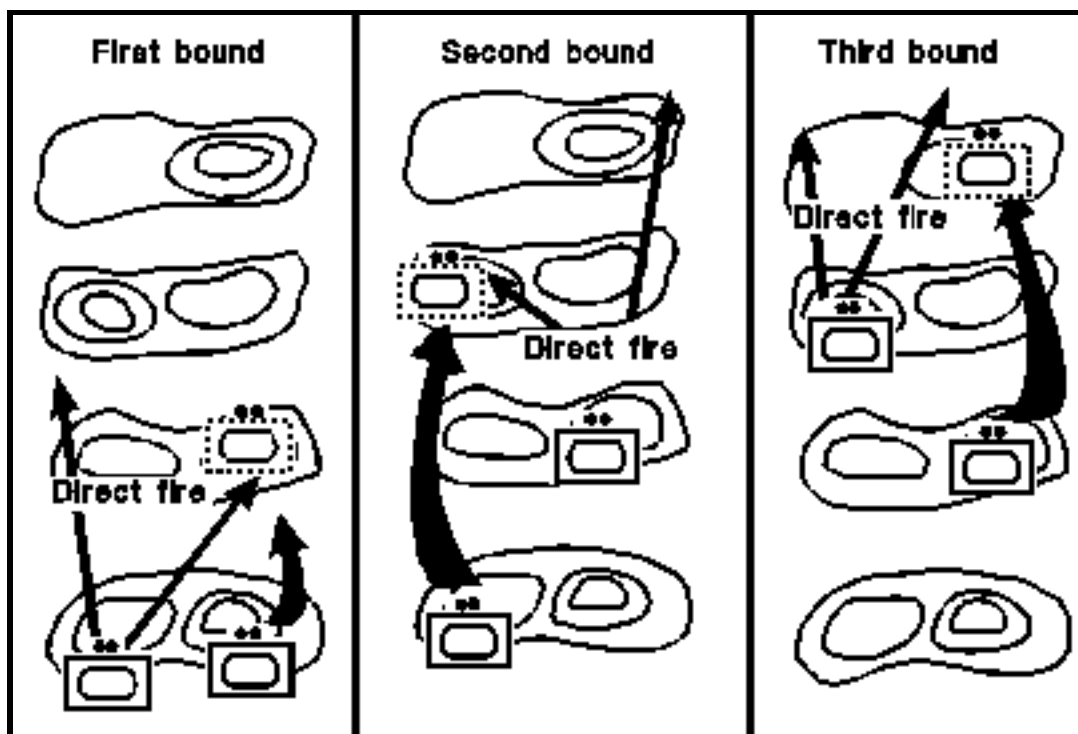

Figure 3-1. Movement by alternate bounds.
- **Alternate bounds.** Covered by the rear element, the lead element moves forward, halts, and assumes over-watch positions. The rear element advances past the lead element and takes up overwatch positions. The initial lead element then advances past the initial rear element and takes up overwatch positions. Only one element moves at a time. This method is usually more rapid than successive bounds. (Refer to Figure 3-1, page 3-12.)